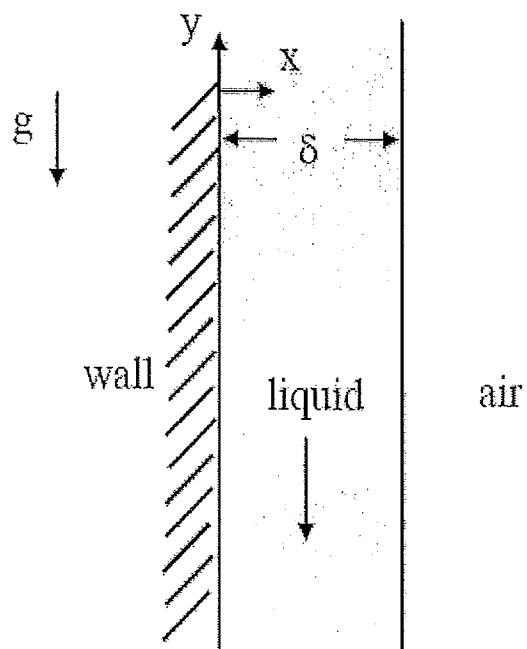

Figure 4 - A Newtonian liquid flows down a vertical wall
- [b] A viscous, incompressible, Newtonian liquid flows in steady and laminar planar flow down a vertical wall (Figure 4). The thickness,  $\delta$ , of the liquid film remains constant. Since the liquid free surface is exposed to atmospheric pressure, there is no pressure gradient in the liquid film. Furthermore, the air provides a negligible resistance to the motion of the fluid.